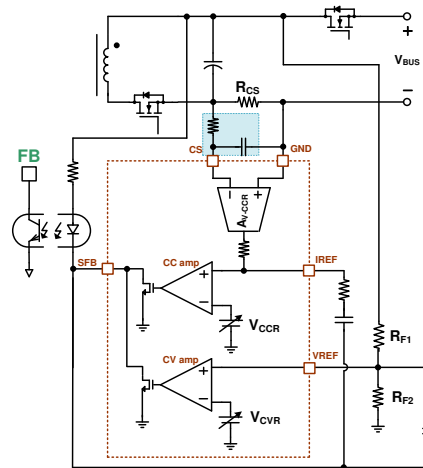

Figure 24 Constant Voltage and Constant Current Circuit
The internal constant voltage control block regulates adaptive output voltages. Output voltage is sensed through an external resistor divider. The sensed output voltage is connected to the VREF which is the non-inverting input terminal of the internal operational amplifier. The inverting input terminal is connected to the internal voltage reference (VCVR) which can be adjusted according to the requested output voltage via Quick Charge 3.0 protocol. The amplifier and an internal switch operate as a shunt regulator. The output of the shunt regulator is connected to the external opto-coupler, and this pin is named as Secondary Feedback (SFB). To compensate output voltage regulation being stable, one capacitor and one resistor are connected typically between the SFB and VREF pins as shown in Figure 24. The output voltage can be derived as shown in equation (1) and the recommended ratio of the resistor divider is 5.
In order to support adaptive constant output current, FAN6291Q incorporates the constant-current control circuit internally. Output current is sensed via a current-sense resistor, RCS, which is connected between the CS pin and GND pin. The sensed signal is internally amplified, and this amplified voltage is connected to the non-inverting input of the internal operation amplifier. Likewise the constant voltage amplifier circuit, it also plays a role as a shunt regulator to regulate the constant output current. In order to compensate output current regulation, one capacitor and one resistor are connected between IREF and SFB pins typically as the Figure 24. The constant output current is decided by the equation (2). 30 mΩ is typically used for the sense resistor.
Since CS pin senses small amounts of voltage, the sensing resistor should be positioned as close as possible to CS pin. Shown in Figure 24, an RC low pass filter can be added on the CS pin to be immunized from noise.